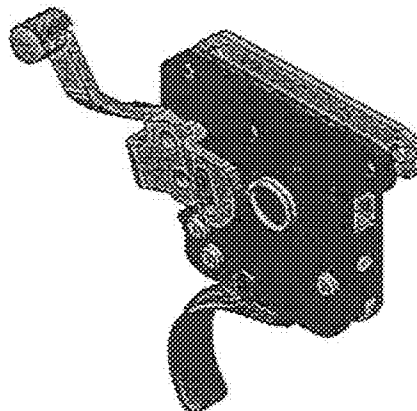

Figure 4
3. Slide the **safety assembly** into the opening at the rear of the trigger housing as shown in Figure 4. Bias the camming leg of the safety against the inside surface of the right hand side plate of the trigger housing. Insert a bolt stop pin thru the pivot hole to temporarily secure the safety to the housing (if necessary).